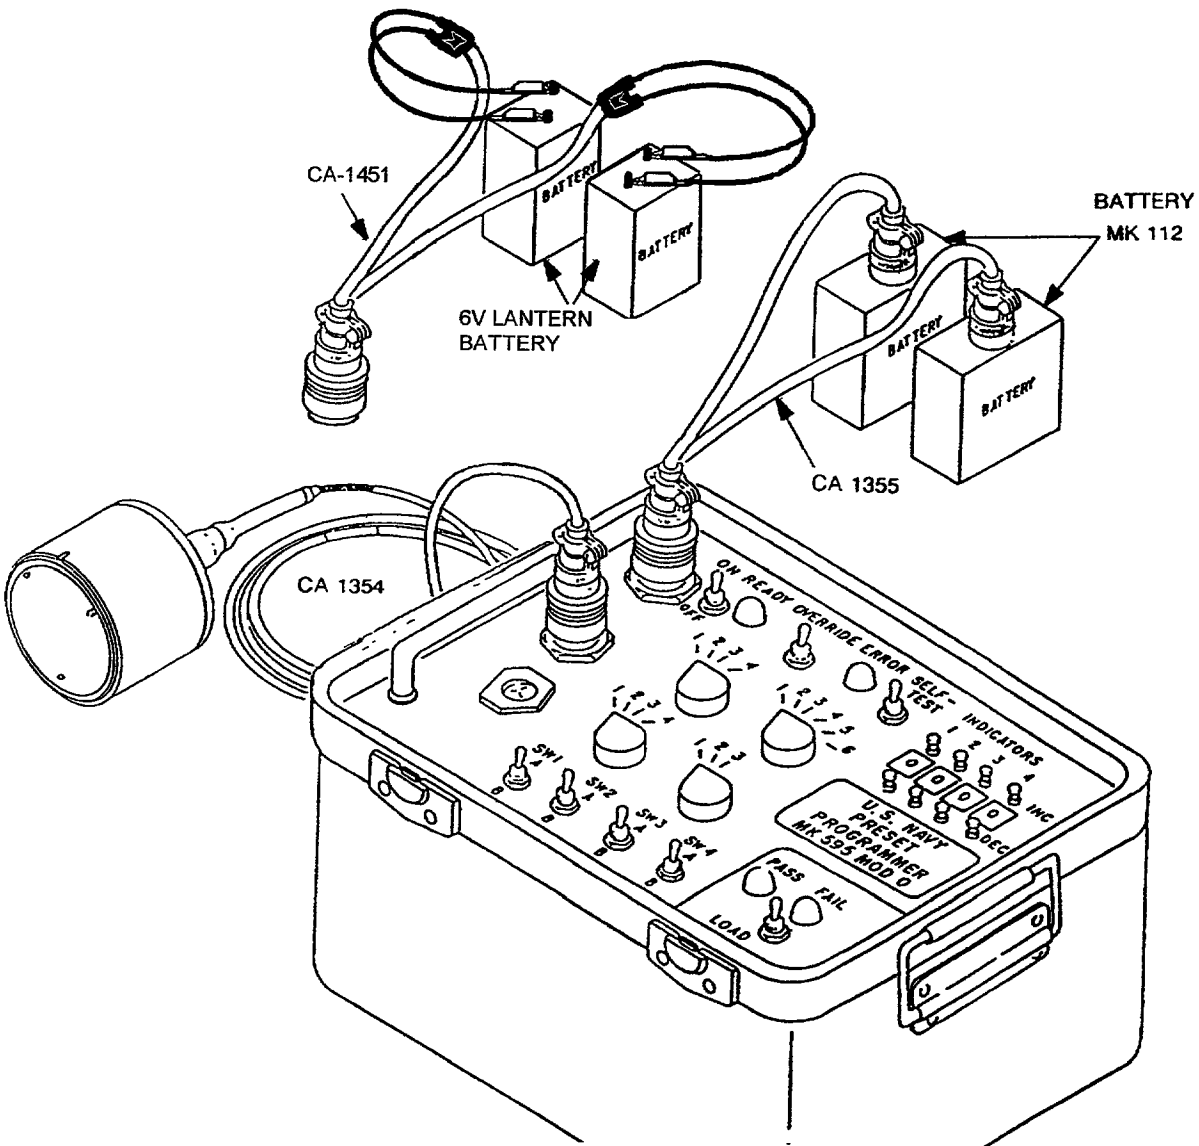

Figure D-2. Preset Programmer Section (Top Section) Self Test Set-Up
- f. Connect Cable Assembly CA-1354 (Figure D-2) to the CA-1354/1353 panel connector.
- g. Connect P1 of Cable Assembly CA-1355 (Figure D-2) to the CA-1355 panel connector and the P2 and P3 legs of the Cable Assembly each to a Battery Mk 112 proceed to paragraph D.1.3.